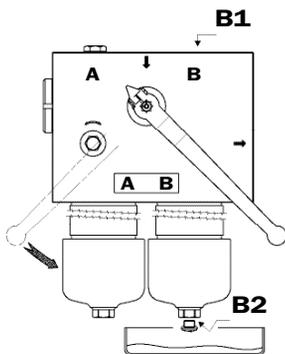

Fig. 2
- 2** Turn handle to divert the oil flow from housing B to housing A. Unscrew the air vent plug (pos. B1) and open the oil drain connection (pos. B2) collecting the fluid in a suitable container. When the operation is finished check the condition of the seals and if OK re-assemble on the plug (pos. B2) tightening it fully down and close the the air vent connection (pos. B1). Unscrew the cover (version P01) or housing (version P02) using the specific tools, and then extract the filter element (see fig 2).